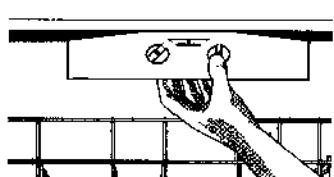

Figure 9a
- Check that dishwasher is level from side to side by placing a level against the top front section of the tub. See Figure 9a.